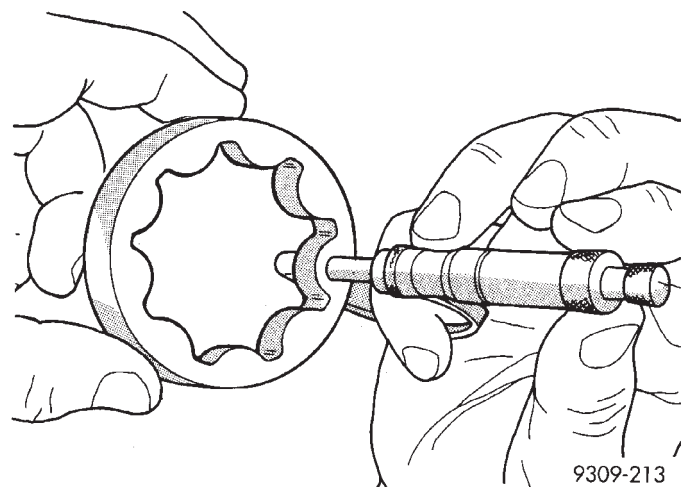

Fig. 129 Measuring Outer Rotor Thickness
(3) Measure thickness and diameter of outer rotor. If outer rotor thickness measures 7.64 mm (0.301 inch.) or less (Fig. 129), or if the diameter is 79.95 mm (3.148 inches) or less, replace outer rotor.